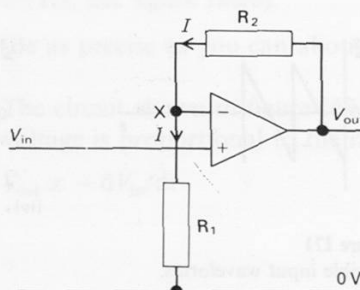
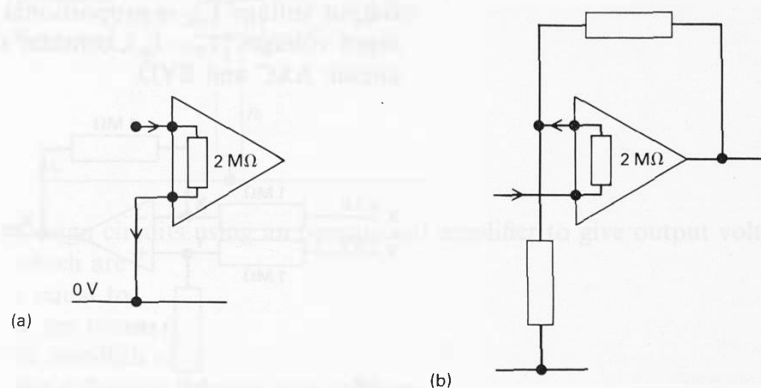

Figure I73
Figure I74
- 29(L)a** For the circuit shown in figure I73 obtain two independent expressions for the potential V_X at X:
30(L) In the circuit shown in figure I73, R_1 is $100\text{ k}\Omega$.
31(P) Suppose in the circuit shown in figure I73 that $V_{\text{in}} = 1.5\text{ V}$ and $R_1 = R_2$.
(Note: in the circuits you studied before this one, the non-inverting input was connected to 0 V . You learned that the input resistance is very high, so the input current to the operational amplifier is very small. This input current actually flows inside the amplifier between the two inputs: the 'equivalent circuit' for a $2\text{ M}\Omega$ input resistance would be as in figure I74(a), and in the case of the above circuit figure I73 would be as in figure I74(b).)
c Using the values given earlier in this question for the circuit of figure I73 together with the typical specification given in table I1 (page 90), calculate the p.d. between the two inputs.